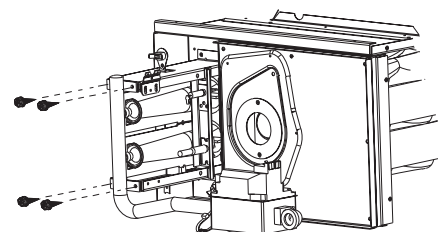

Figure 1. Typical view
7. Remove four (4) screws from manifold bracket. See Figure 1.